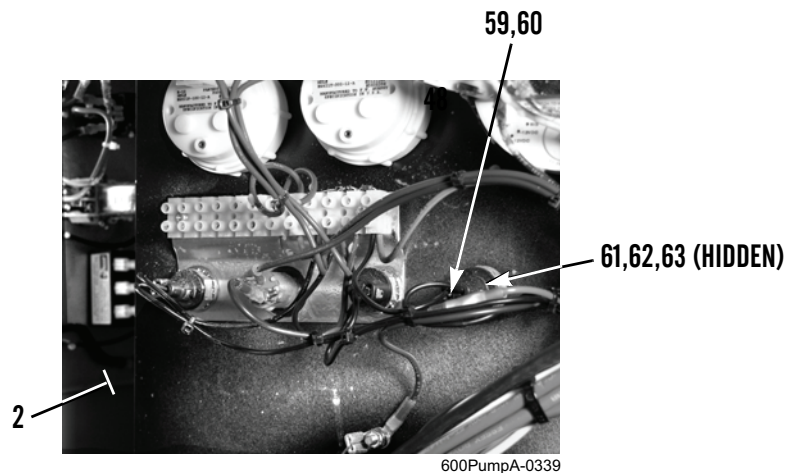

Figure 19. Alternator Light.
1. Disconnect connector (Figure 19, Item 59) and remove bulb (Figure 19, Item 60) from alternator light (Figure 19, Item 61).
2. Remove nut (Figure 19, Item 62), lockwasher (Figure 19, Item 63), and alternator light (Figure 19, Item 61) from panel (Figure 19, Item 2). Discard lockwasher.
1. Install alternator light (Figure 19, Item 61), new lockwasher (Figure 19, Item 63), and nut (Figure 19, Item 62) on panel (Figure 19, Item 2).
2. Install bulb (Figure 19, Item 60) and connect connector (Figure 19, Item 59) to alternator light (Figure 19, Item 61).